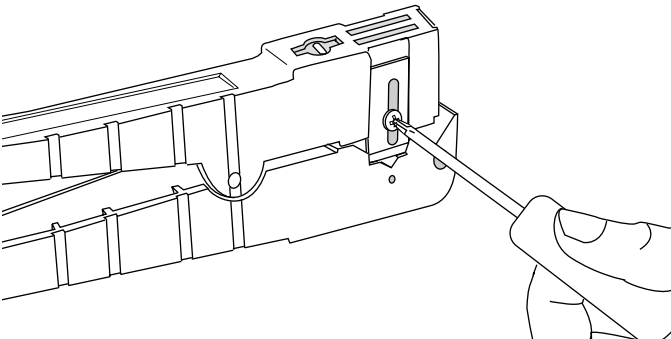

Figure 3
**4.2** Before using the large Ideal stripper, make sure that it is properly adjusted. Use a screwdriver to adjust *one* of the blades on the side of the cable stripper so that it seats against the lower jaw but does not force the jaw open (Figure 3). Leave the blades on the front and other side of the tool fully retracted so that they do not extend into the grooves of the lower jaw.